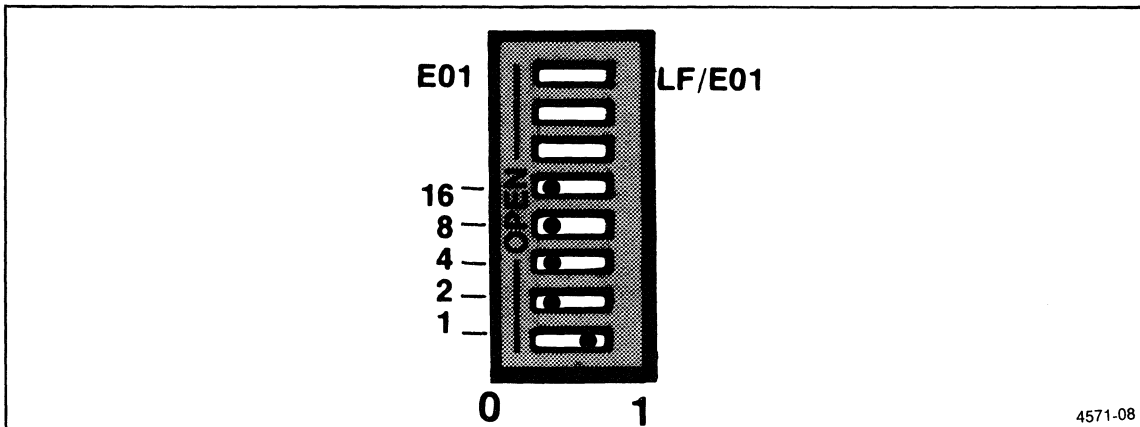

Figure 5-1. DAS rear panel GPIB address switch set to 1.
1. Set the address switches on the back of the DAS mainframe to 01. This is done by setting the DIP switch on the back of the DAS as shown in Figure 5-1 (which shows Switches 1, 2, and 3 are left in an indeterminate state).
5. Set the GPIB address on the back of the DAS to 01, as shown in Figure 5-1.